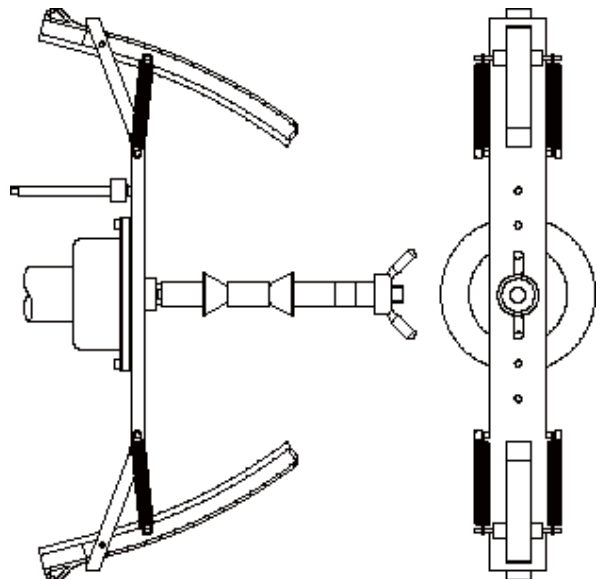

Fig. F4.3 Application of the sample weight on the external side of the flange for motorbikes on the shaft (Cal3 phase)
10. At the end of the launch, the machine will display the writing C A L h 1 2 . Apply the calibration weight on the external side as shown in Figure F4.3. The calibration weight is to be applied on the hole that has the wording “CAL” marked on it;
part as shown in figure F4.3 and press the [P8]  Start or lower the wheel guard. If the position is significantly different from the vertical one, the machine will reject running the launch by emitting an acoustic error message (triple beep).